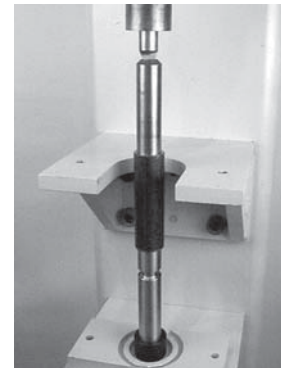

Figure 74
5. Using an arbor press or similar device, press bearing onto pulley shaft (**Figure 74**).